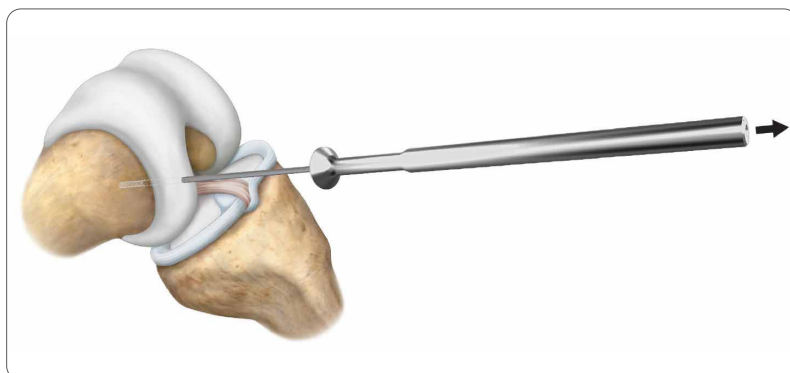

Figure 3
3. Remove the Perpendicular Aligner, the K-wire remains in place (**Figure 3**).